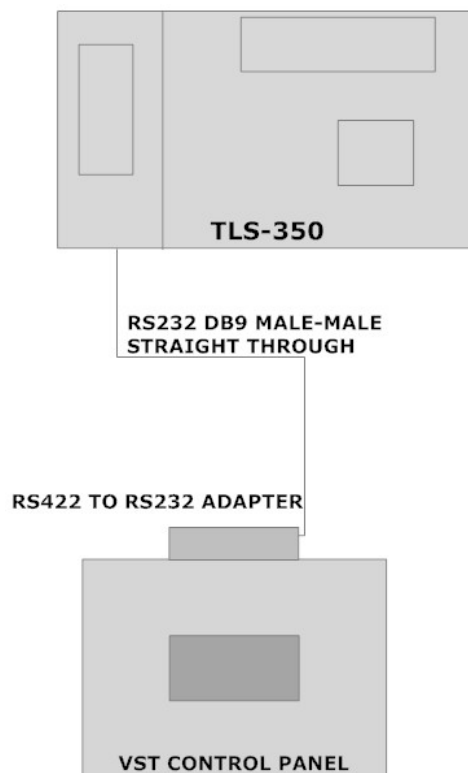

Figure 11: RS422 to RS232 Adapter to TLS-350 Connection - Option A Direct Connection
- See **Figures 11 - 15**
- **OPTION A:** Using the 6 foot RS232 (DB9 Male to Male) serial cable supplied with the VST *Green Machine*, connect one end of the serial cable into the RS232 port on the Adapter located on top of the VST Green Machine Control Panel and the other directly to the TLS-350 Multi-port MODBUS card. Secure these connections. If a longer cable is needed it may be ordered, however the cable length should not exceed 50 feet. Finally set the communications setting for the COM 6 in the TLS-350 to 9600 BPS, 8 data bits, 1 stop bit, No parity. **See figure 11.**